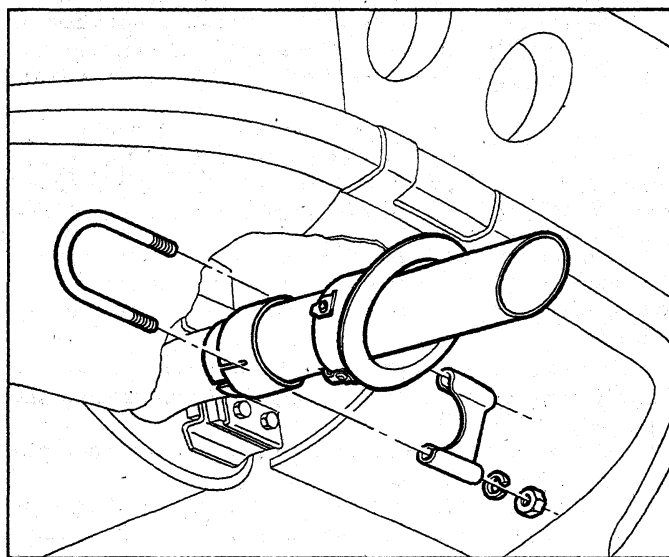

Fig. 23—Exhaust System Tail Pipe Attachment
3. Remove the "U" bolt attachments at both rear tail pipe (See Figure 23).